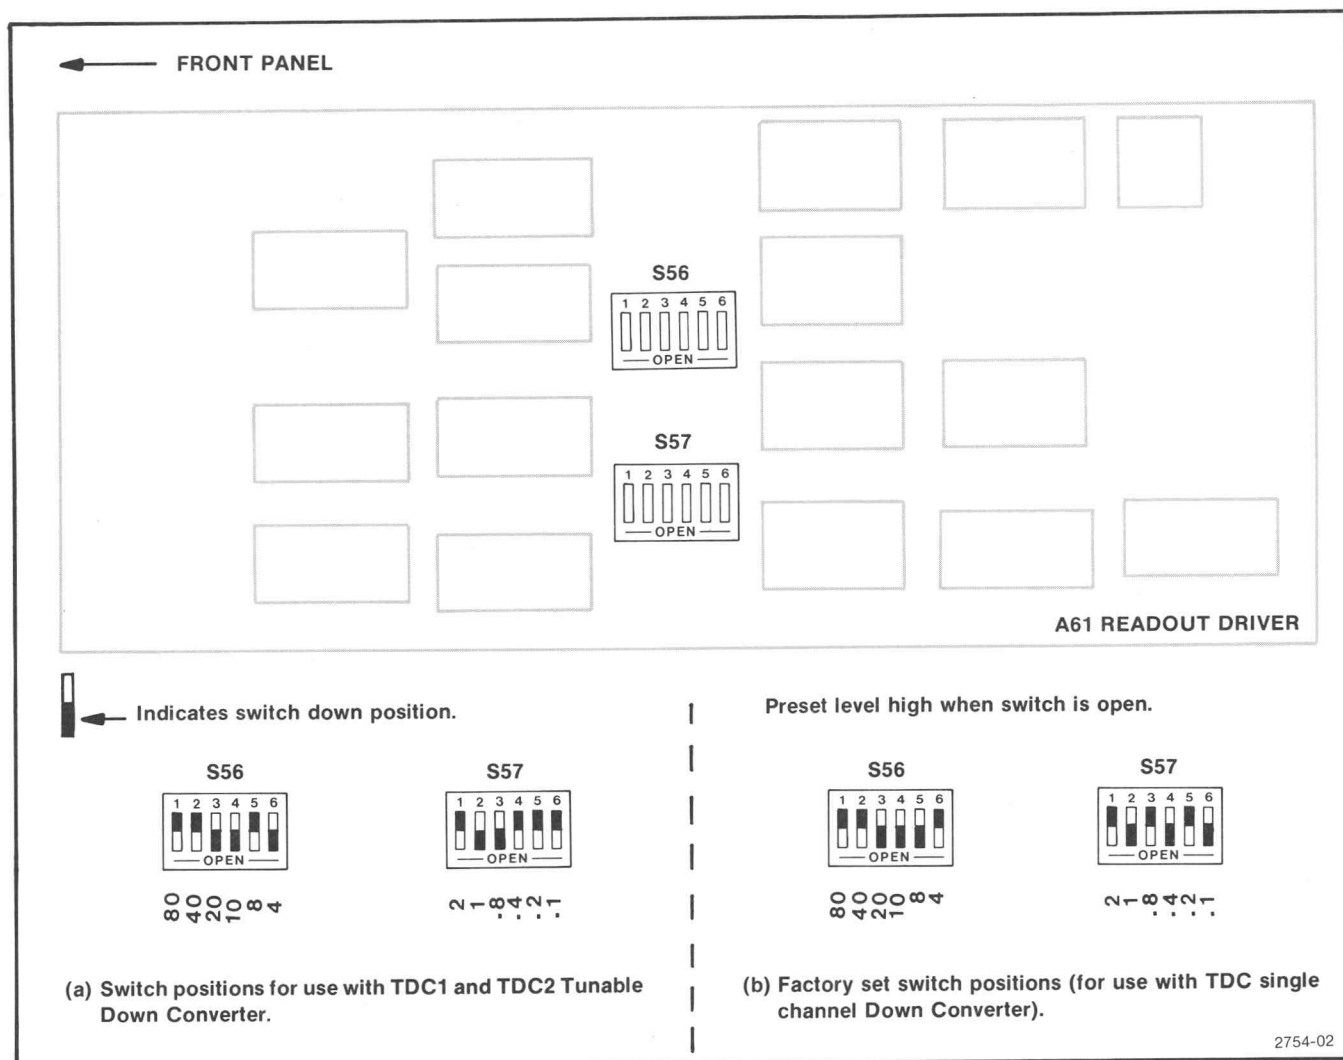

Fig. 2-2. 1450-1 Readout Offset for the TDC1 and TDC2.
Slide the TDC1/TDC2 (Television Down Converter) into the slot in the 1450-1. Be sure that the down converter is firmly seated, then secure it in place with the two thumbscrews. See Fig. 2-2.
Remove the top cover from the 1450-1, and locate two sets of switches on the Readout Driver board (A61). The switches are in dual-in-line (dip) packages that are slightly shorter than a 14-pin dip Integrated Circuit (IC). See Fig. 2-2. Check to see if these switches are set according to Fig. 2-2, and if they are not, reset them. When these switches are set correctly, the 1450-1 RF Signal Input Level readout will indicate the correct RF Input signal level.